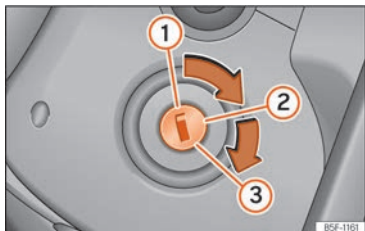

Fig. 238 Ignition key positions.
Key positions »» Fig. 238
- Turn the key to position »» **Fig. 238** . Preheating occurs in diesel vehicles .
- Keep turning the key to position »» **Fig. 238**  without stepping on the accelerator.
- *Vehicles with ignition locks:* Turn the key to position » **Fig. 238** .